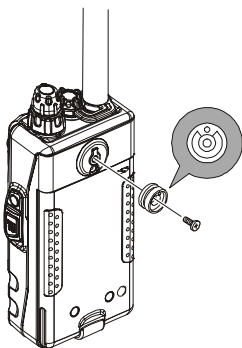

Figure 2
- ❑ Clip the Quick-Draw Belt Clip onto your belt (Figure 2).